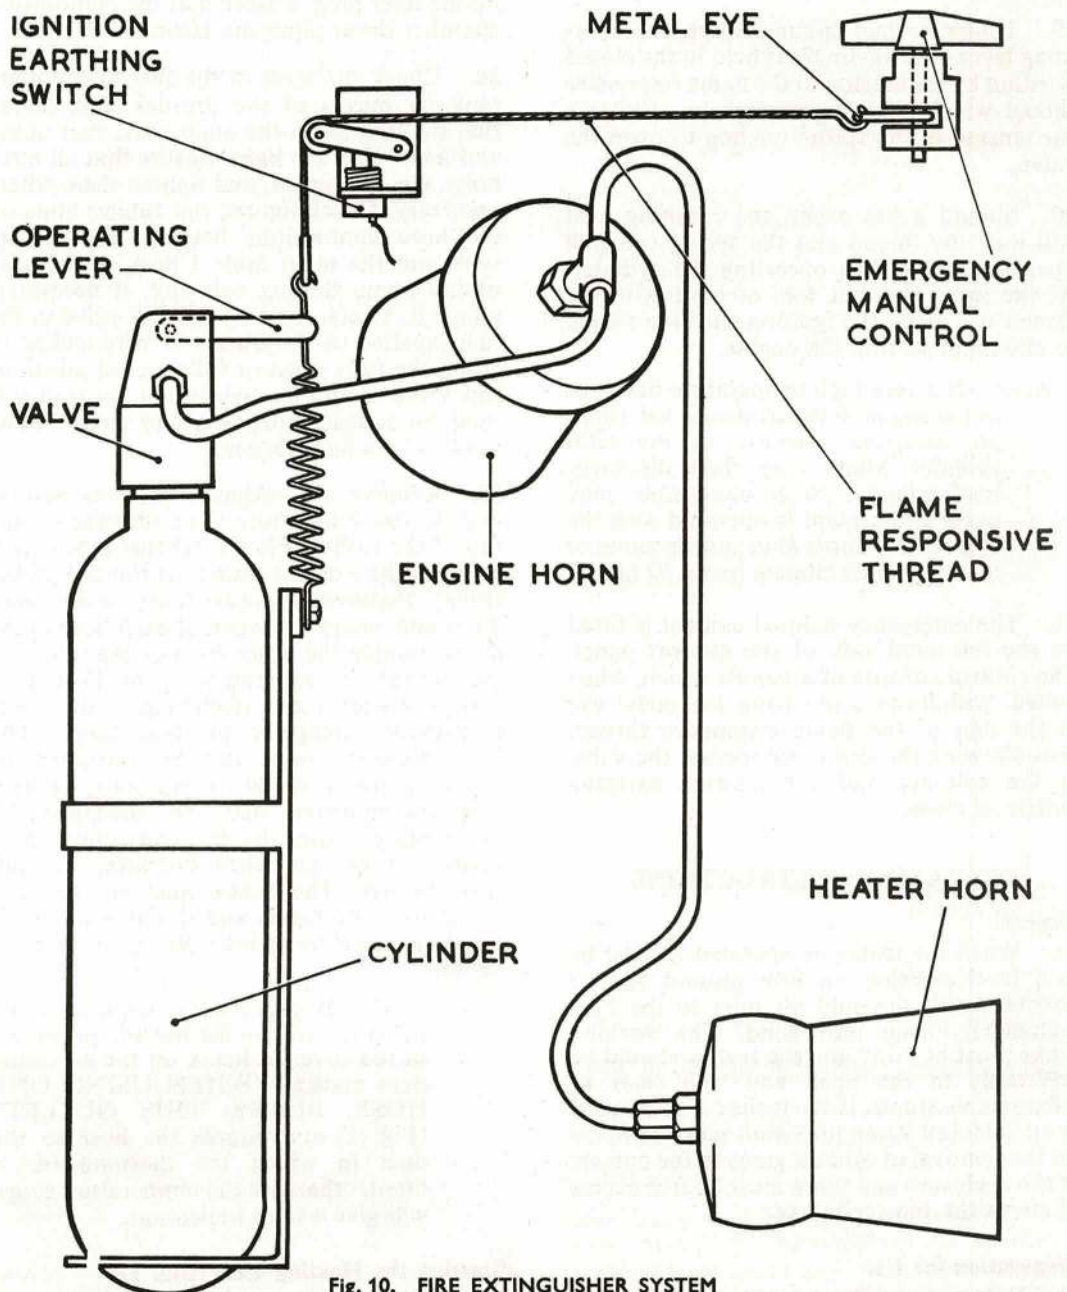

Fig. 10. FIRE EXTINGUISHER SYSTEM
17. An automatic fire extinguisher system (Fig. 10), which also incorporates an emergency hand control, is fitted to the engine